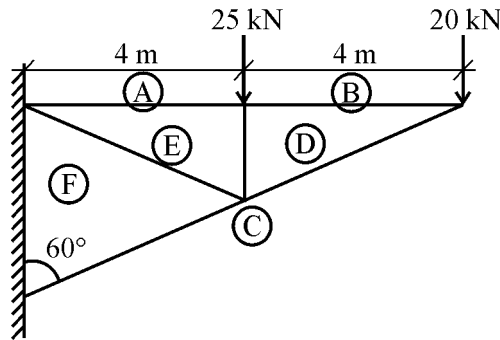

Fig. No. 3
- (b) Find out the forces in the members of a cantilever truss as shown in fig. No. 3.